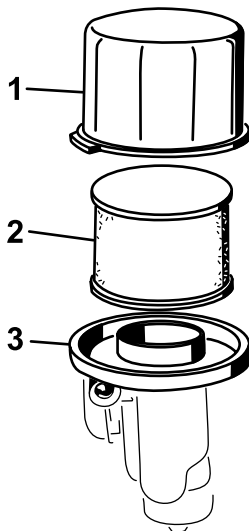

Figure 25
3. Remove the cover and clean it thoroughly (Figure 25).
4. Remove the foam pre-filter from the paper filter (Figure 25), and replace the paper filter if it is excessively dirty.